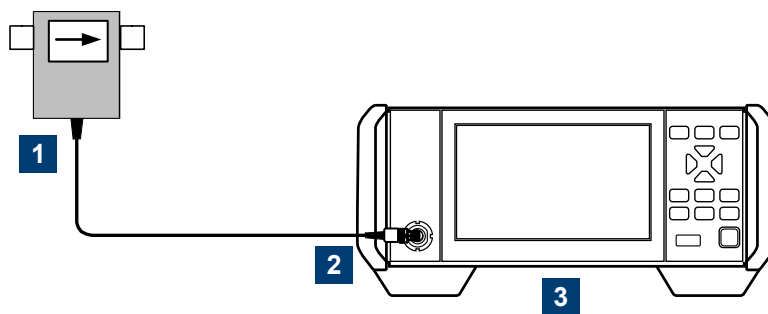

Figure 3-3: Connecting to base unit
- ▶ Connect the host interface connector of the R&S NRT-Zxx directional power sensor, (2) in Figure 3-3, to the sensor interface of the base unit.